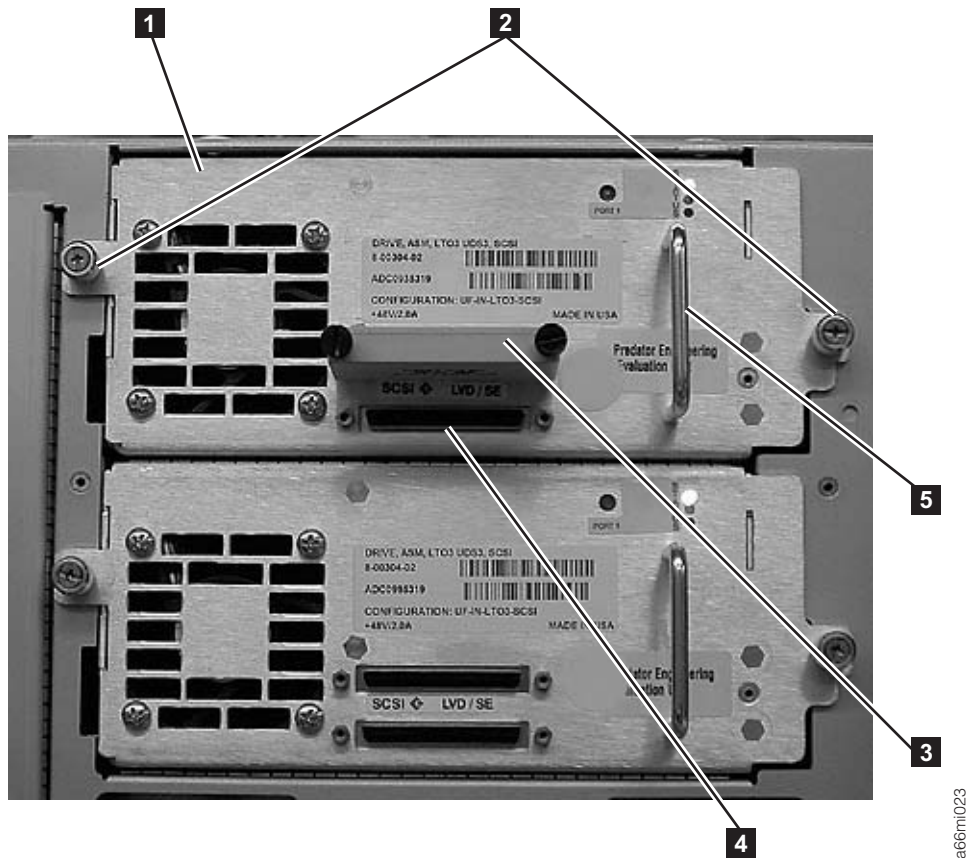

Figure 4-21. Tape Drive (detail)
2. Grasp the handle ( **5** in Figure 4-21 on page 4-20) and slowly slide the drive sled into the drive slot, while supporting the drive sled from underneath.
3. Tighten the two thumb screws ( **2** in Figure 4-21) that hold the drive sled in place by turning them clockwise.